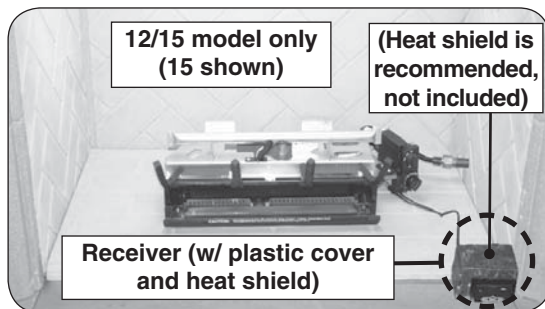

Fig. 16-4 Place remote receiver
3. **Place the remote receiver at the front right corner of the fireplace.** Place as far from the burner system as possible. See Fig. 16-4.
4. Place the plastic cover over the remote receiver with the open side facing forward to allow access to the receiver controls (see Fig 16-4).